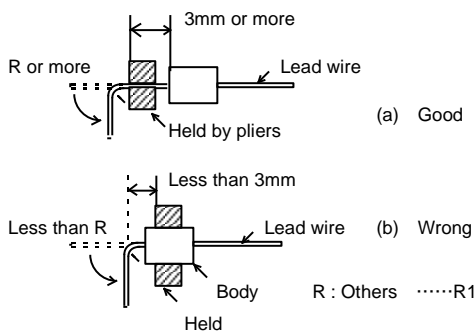

Fig. 1 Lead bending
- a) Bend a lead by holding it with a pair of pliers at a point at least 3mm away from the sealed body, as shown in Fig.1(a). Two 90° bending or a single 180° bending is allowed.
- b) Bending a lead by holding its body with a pair of pliers or your fingers, as shown in Fig.1(b) must be avoided. Otherwise, the lead will be cut off or the body may get cracked. Additionally, it may result in degraded electrical capabilities and decreased reliability.